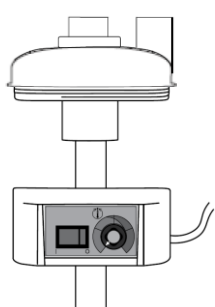

Figure 1
- Attach a new Mystic™ Humidifier to threads on top of heater by turning on clockwise. Be sure to tighten firmly (Fig 1).